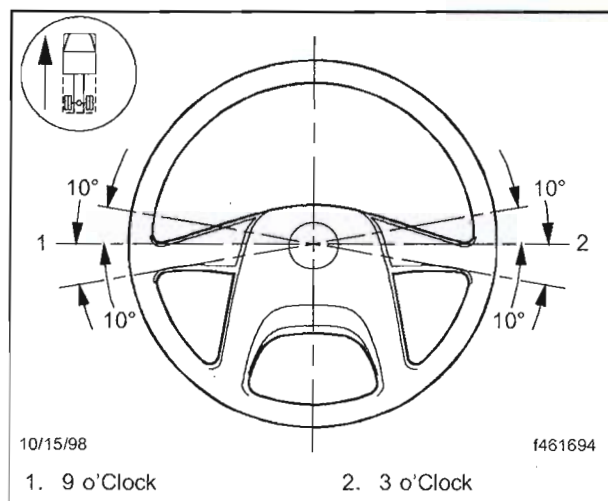

Fig. 7, Centering the Steering Wheel
29. Make sure that the steering wheel spokes are within 10 degrees of the 3 o'clock and 9 o'clock positions on the steering wheel. See **Fig. 7**.